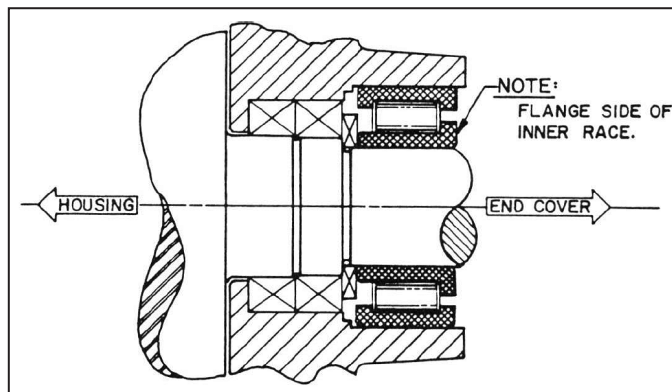

Figure 10 - Roller Bearing Flange
3. Stand rotors [1] on arbor press table with gear end shafts up. See Figure 10. Two keyways should point in the same direction, to the right.
15. Install bearing spacers [123] on each shaft. Lubricate shafts and install roller bearings [10]. CAUTION: Inner race of bearing has a flange on one side only. This flange must face outward. See Figure 10.